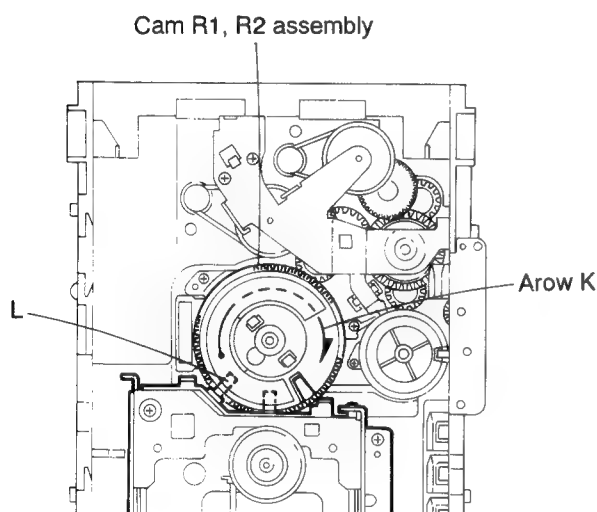

Fig. 5-40
■ Removing the CD mechanism (See Figs. 5-40 and 5-41)
1. For dismantling only the CD mechanism without removing the CD mechanism assembly, align the shaft (L) of the CD mechanism assembly to the position shown in Fig. 5-40 while turning the cam R1 and R2 assembly in the arrow direction (K).